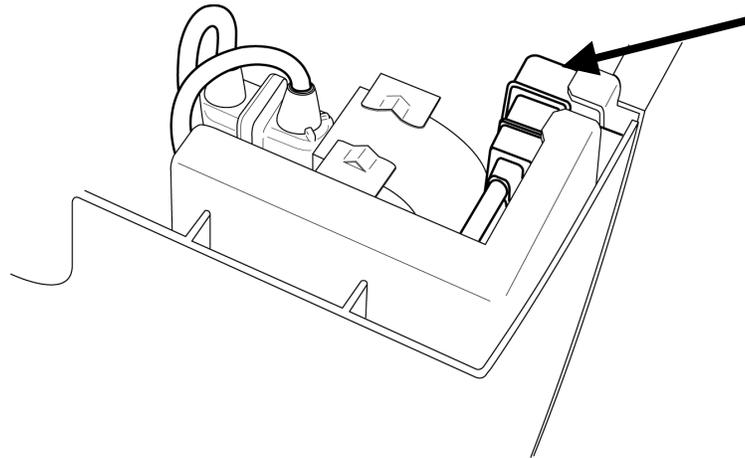

Figure 7.15 Expiratory Sensor connector location
5. Connect the tubing assembly to the internal expiratory sensor port. See figure 7.15 for the sensor connector location.